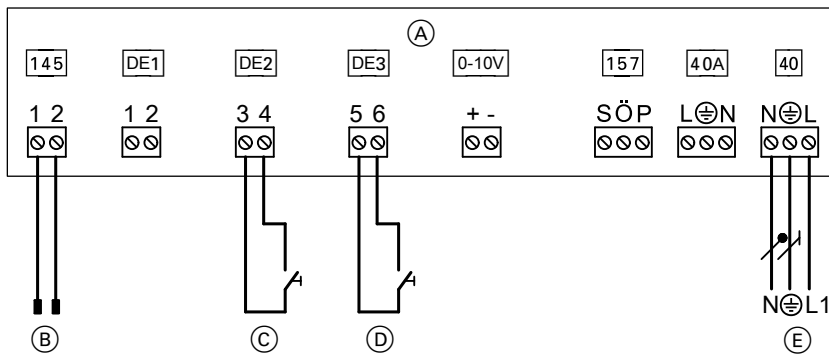

Fig. 39
- To EA1 extension as shown in Fig. 39